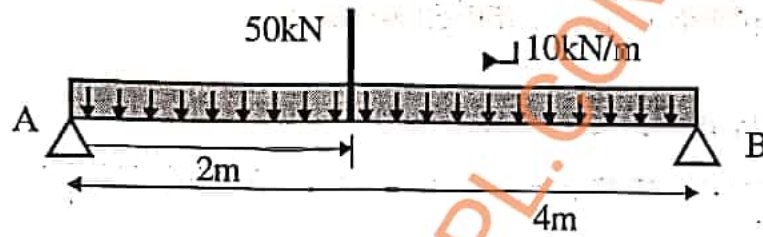

Figure 1.0
4. A Simply Supported R.C. rectangular beam of span 4m and cross section $150\text{mm} \times 300\text{mm}$ is loaded as shown in figure 1.0. Find the maximum Slope and deflection of the beam. Take $E = 2 \times 10^4 \text{ N/mm}^2$